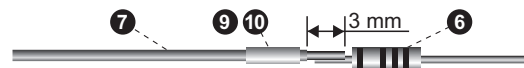

Fig. 2
- 4. The other cables are being soldered on the resistors (6). Insulate the junctions with the other shrink-tubes (9, 10). Attention: shrink-tubes should be mounted onto the cables before soldering! (Fig. 2)